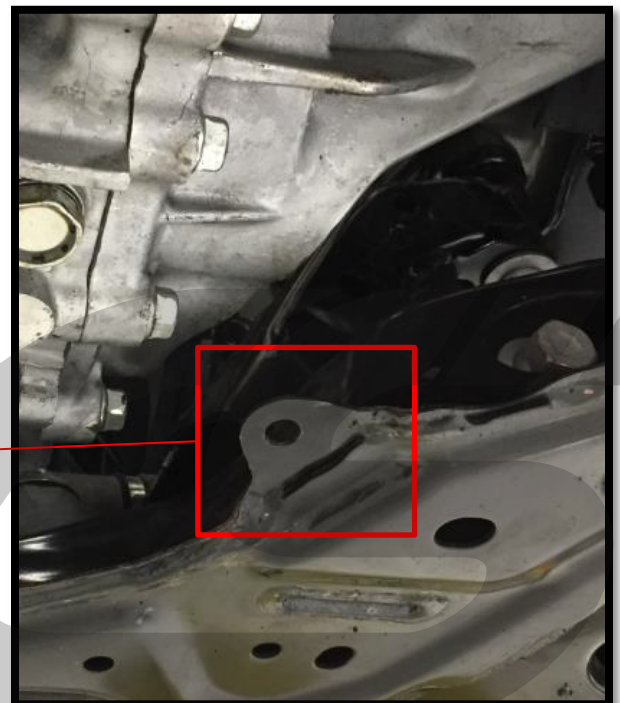

Figure 2a
- a) Install two (2) extruded U-nuts onto the tabs the rearmost push clips were removed from (one shown circled in red in Figure 2a). Push the U-nuts on until the threaded portion is centered in the hole in the tab.